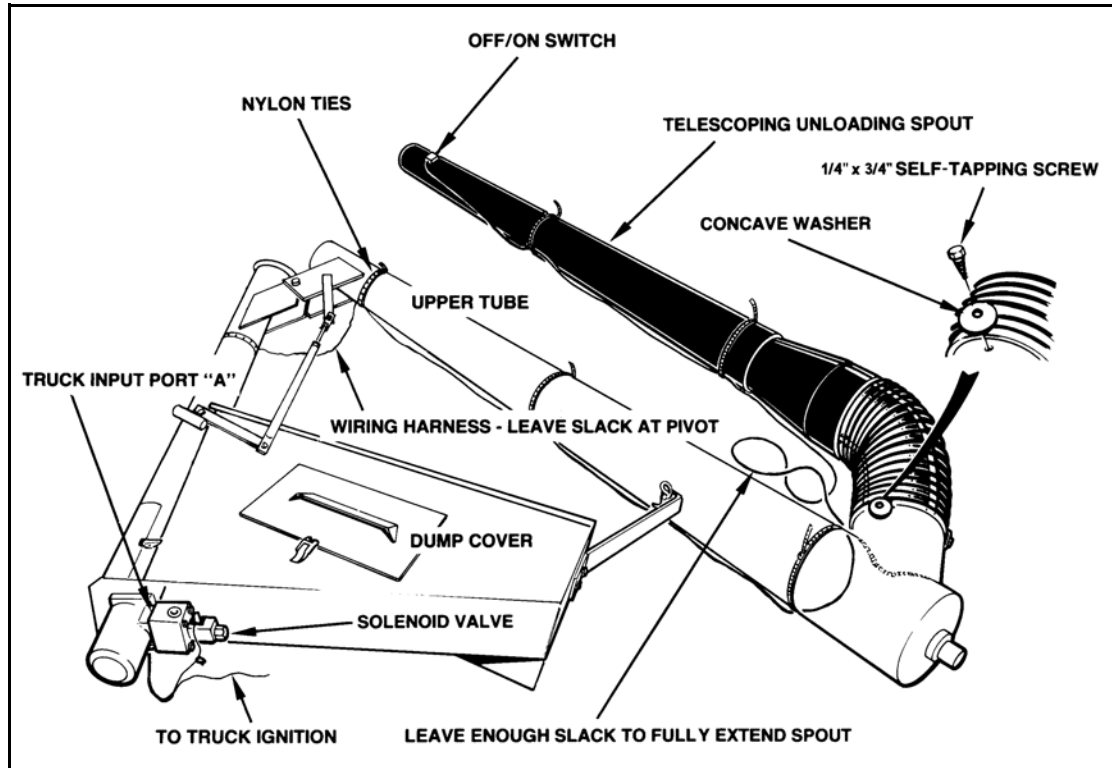

Figure 3.10 Switch
- Leaving some slack at the solenoid, route the wiring harness up the back side of hopper and tube sections, outside the pivot brackets. Secure with 7 nylon ties (Figure 3.10).
- Mount OFF/ON switch to the pre-drilled holes near the telescopic unload spout handle with two 1/4" x 1/2" bolts and whiznuts (Figure 3.10).
4. Secure the wiring harness to telescopic unload spout with nylon ties (Figure 3.10).